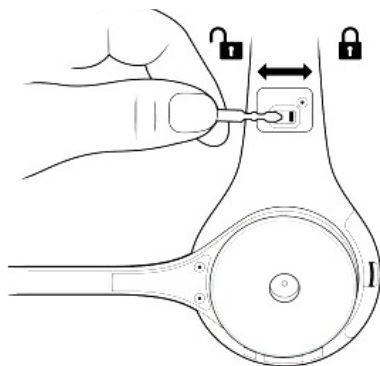

Figure 7.
1. On the opposite side of the Headset Carrier, ensure that the Control Pod Locking Mechanism is in the unlocked position by sliding it all the way to the left. A small flat-head screwdriver or other similar tool can be used to slide the locking mechanism if needed. See *Figure 7*.
4. Slide locking mechanism on the opposite side of carrier to the locked position. See *Figure 7*.